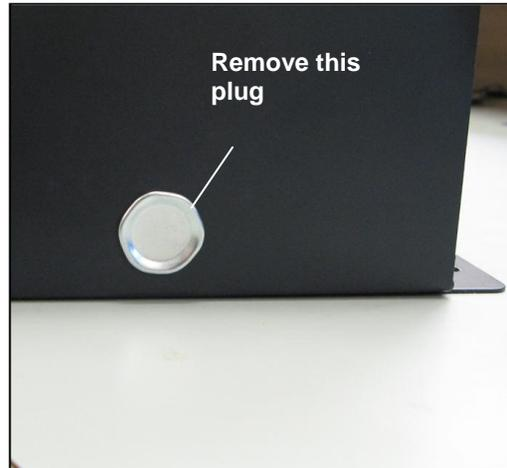

Figure 23-1 SS1-to-OM4 Connection
4. See Figure 23-1. Remove the metal plug from the right side of the SiteSentinel® iTouch™ Controller to expose the DIN connector inside.